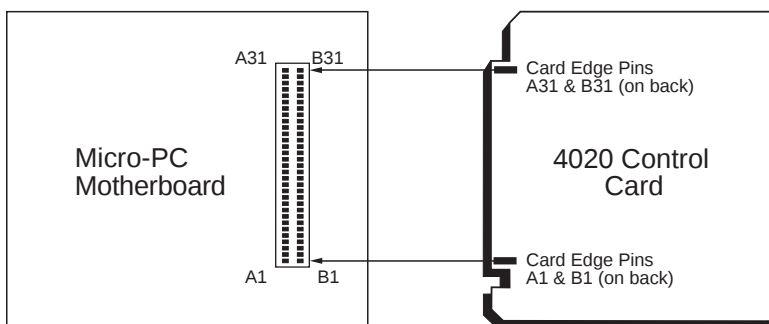

Figure 2-2 – Edge Connector Orientation
Take care to correctly position the 4020 card in the card cage. The VCC and ground signals must match those on the backplane. Figure 2-2 shows the relative positions of the 4020 card as it is installed in the card cage.
2. Insert the 4020 into a connector on the backplane. Take care to correctly position the card's edge with the connector of the backplane. Figure 2-2 shows the relative positions of the 4020 card as it is installed into a backplane.